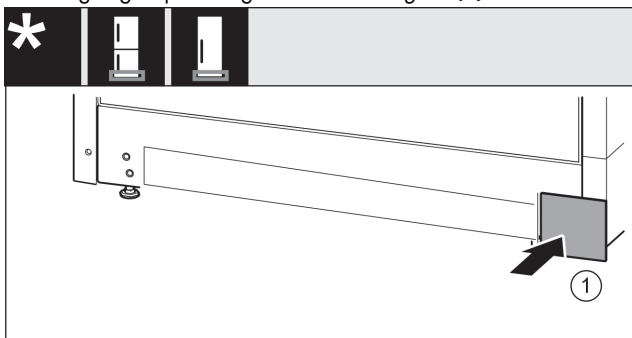

Fig. 12
- Put the cover back on the other side. Fig. 12 (1)